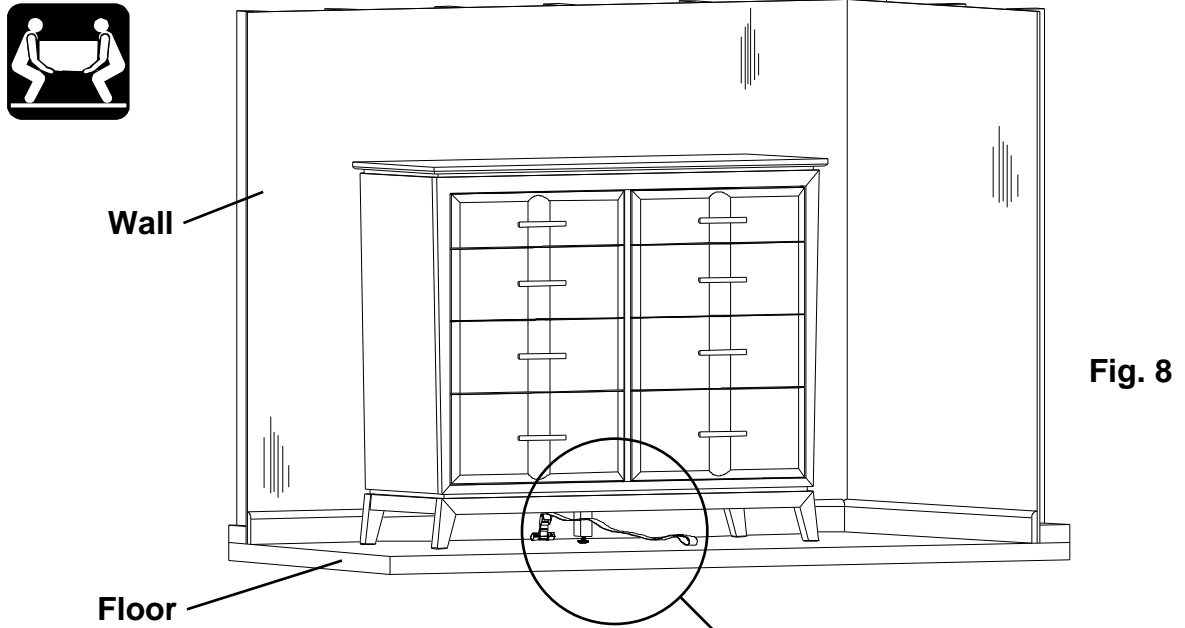

Fig. 8
8. Move the item back into position against the wall and reach underneath the piece of furniture to grasp the loop in the free end of the strap. Pull the free end of the strap until portion between the Cam Buckle (A) and the back apron of the item is tight. See Figures 8 and 8a. If you need to move the piece of furniture reach beneath and locate the buckle which connects the two sections of the strap and depress the release lever, then pull on the section of strap that is between the buckle and the back apron of the furniture until there is enough slack to allow you to pull the item away from the wall.